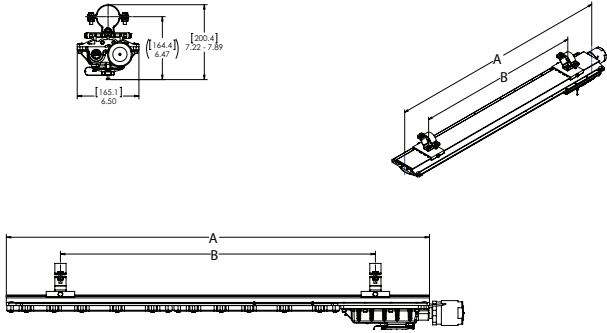
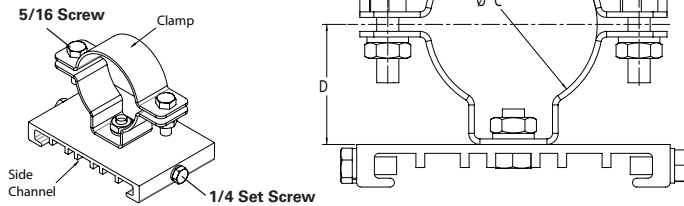

Figure 6. PM KIT – Pole Mount Installation
Figure 7. PM KIT – Pole Mount Details
- Verify that the clamp (see Figure 7) internal diameter is consistent with the diameter of the pole prior to installation. Clamps are available in 1.65" (42mm), 2.00" (51mm) and 2.36" (60mm) sizes.
- Pole mount brackets may be spaced as required; for the four foot, it is required to keep them at least 18" (457mm) apart (see Figure 6) (see table for full mounting range).
- Slide the two (2) pole mount brackets onto the fixture, engaging the flange on the top of the fixture.
- Tighten the two (2) 1/4" set screws on each slide bracket until they bottom (see Figure 7). Torque to 78 in.-lbs. (8.8 N-m).
- Remove the two (2) 5/16" screws, lock washers and nuts on each clamp and remove the upper clamp halves.
- Fixture is now ready for mounting. It is strongly suggested to use two (2) qualified tradespeople to proceed with the final mounting of the fixture. This is recommended to avoid any personal injury or damage to the fixture.
- Install the two (2) upper clamp halves and the 5/16" screws, lock washers and nuts on each clamp.